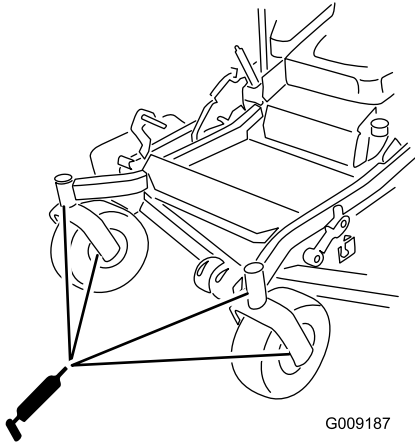

Figure 44
9. Remove the grease zerk in the hole. Install the hex plug and dust cap (Figure 44).